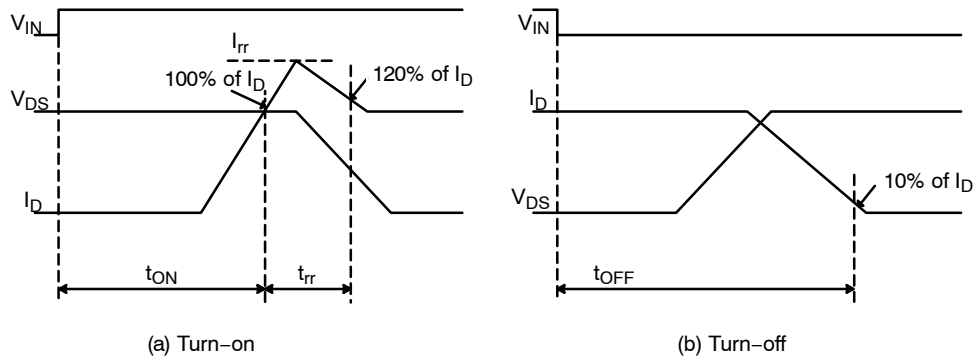
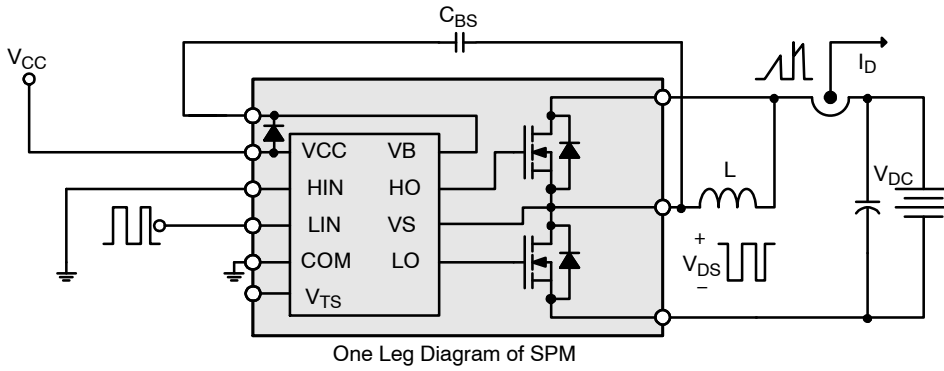

Figure 6. Switching Time Definitions
Figure 7. Switching and RBSOA (Single-Pulse) Test Circuit (Low-side)
6. t_{ON} and t_{OFF} Include the Propagation Delay Time of the Internal Drive IC. Listed Values are Measured at the Laboratory Test Condition, and They Can be Different According to the Field Applications Due to the Effect of Different Printed Circuit Boards and Wirings. Please see Figure 6 for the Switching Time Definition with the Switching Test Circuit of Figure 7.
7. The peak current and voltage of each MOSFET during the switching operation should be included in the Safe Operating Area (SOA). Please see Figure 6 for the RBSOA test circuit that is same as the switching test circuit.